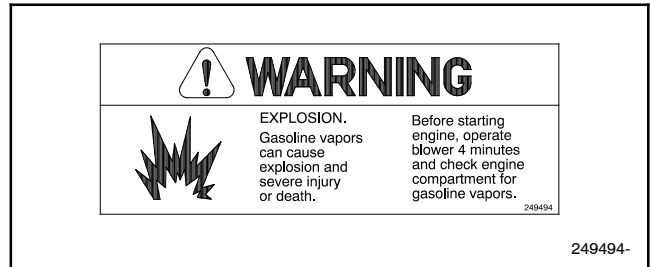

Figure 6 Warning Decal
2.5 For gasoline-fueled generator sets, select a location as near as practical to the generator remote start panel for mounting the warning decal. The decal should be visible when starting the generator set from the remote panel. Before applying the decal, ensure that the surface is clean and dry. See Figure 6.